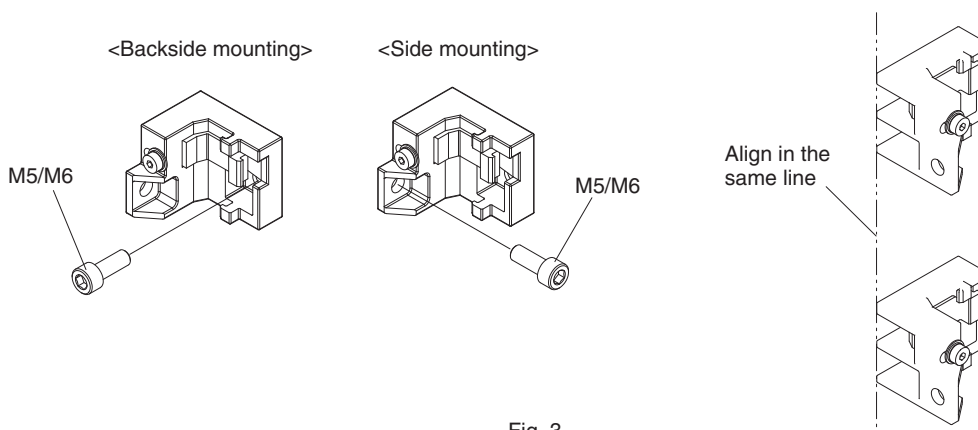

Fig. 3
- Securely tighten screws to fix the Side-Mount Bracket to the mounting position of the wall surface. When using more than one Side-Mount Brackets, align them in the same line using the sides of the brackets that do not face the wall, before attaching the brackets to the sensor. (Fig. 3)